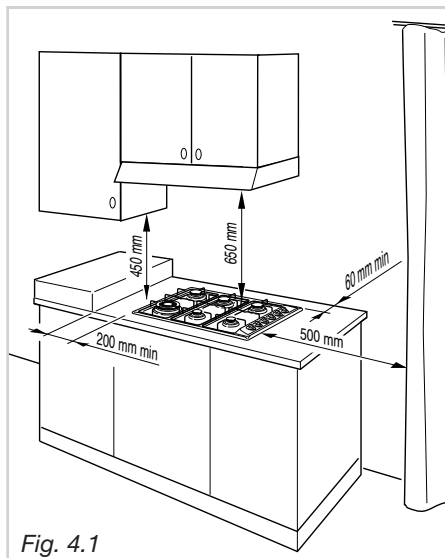

Fig. 4.1
- ✓ there must be a distance of at least 650 mm between the hob and any wall cupboard or extractor hood positioned immediately above (see fig. 4.1);